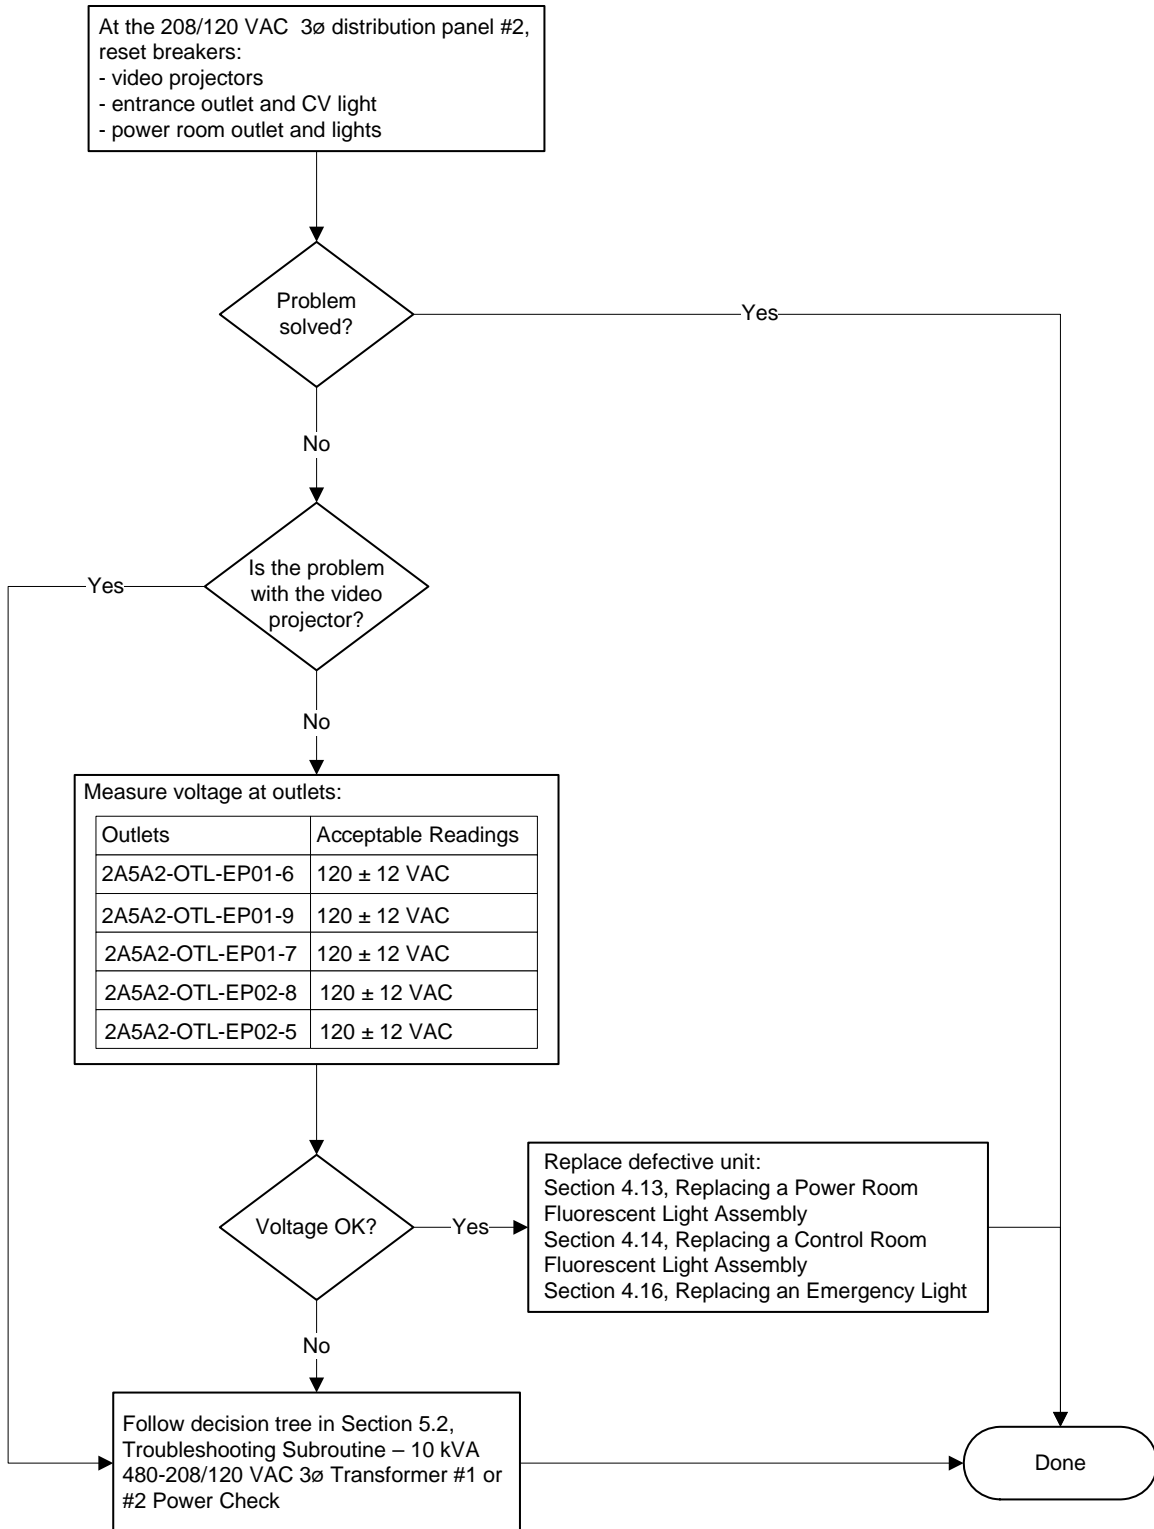

Figure 8 Troubleshooting – Unit Plugged in Power Bus #2 Doesn't Work
1. Follow the troubleshooting steps in Figure 8.